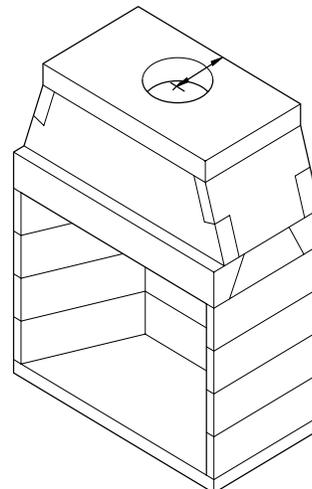

FIGURE 19
Step 11: Set the top plate into position on top of the smoke dome wall assembly. (Figure 19)
Note: The completed smoke dome assembly should present a stable and level surface for setting the flue components. (Figure 19)